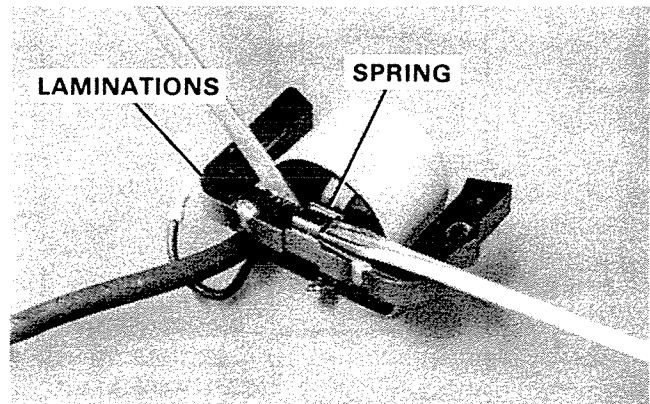

Figure 3. Separating Coil From Laminations.
1. Separate coil from laminations by prying lip of coil wedge spring away from laminations and pulling coil free. Figure 3.